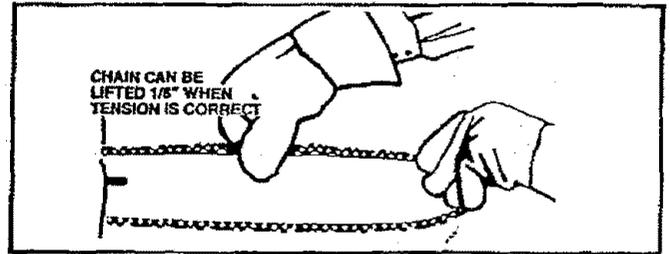

Figure 14
2. Check the tension by lifting the chain from the Guide Bar at the center of the bar. Figure 14.